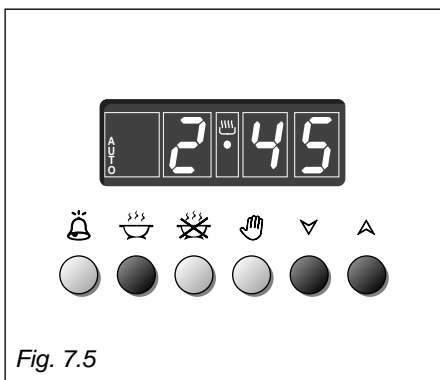

Fig. 7.5
1. Set the length of the cooking time required by pushing the  button and the  button to advance, or  to go back if you have passed the desired time (fig. 7.5). The **AUTO** and the  symbol will be on.